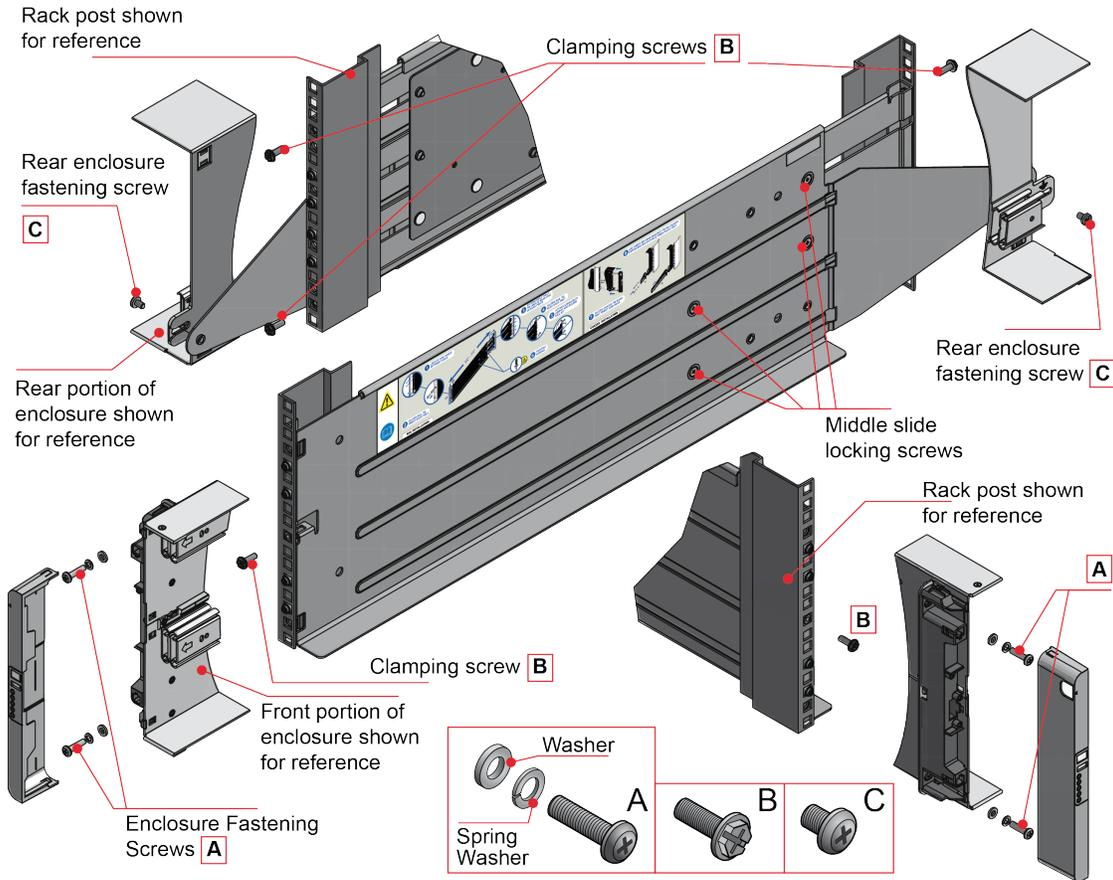

Figure 40. Mounting the System into a Rack (left-hand rail only shown for clarity)
3. Locate the rail location pins inside the front of the rack and extend the length of the rail assembly to enable the rear location pins to locate. Ensure that the pins are fully located in the square or round holes in the rack posts (see Figure 40 “Mounting the System into a Rack \(left-hand rail only shown for clarity\)” on page 39).
7. Fasten the front of the enclosure using the enclosure fastening screws (x4) as shown in Figure 40 “Mounting the System into a Rack \(left-hand rail only shown for clarity\)” on page 39.